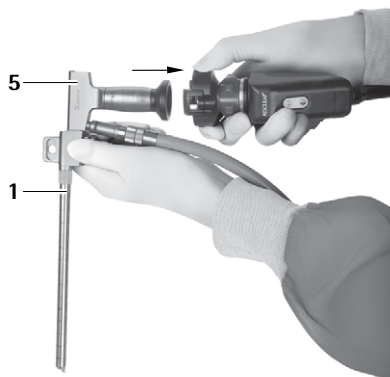
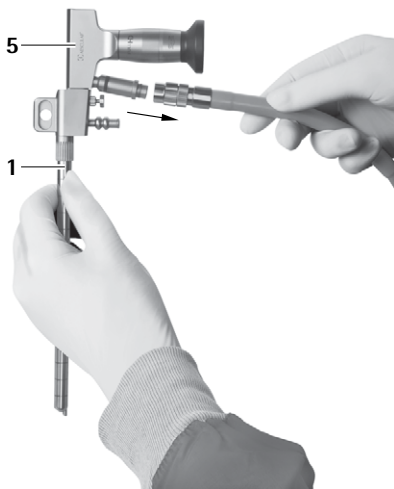

Fig. 6
Fig. 7
- Disconnect camera and light cable from the endoscope 5, see Fig. 6 and see Fig. 7.